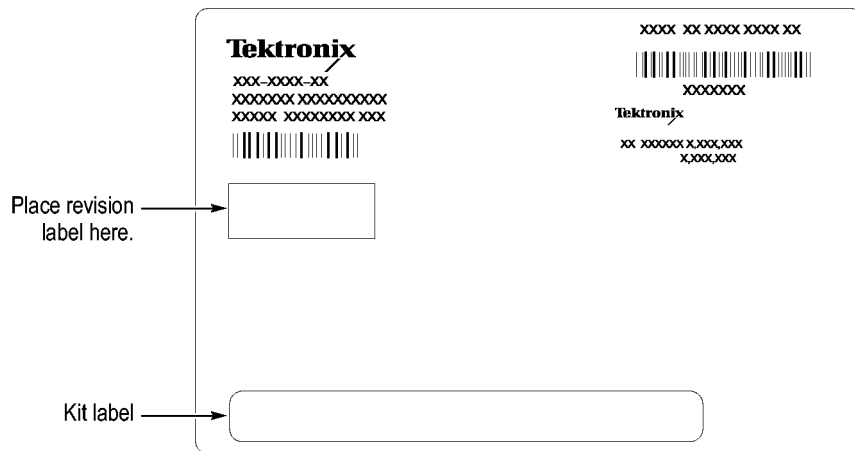

Figure 59: Revision and kit label locations
3. Locate the big label on the side of instrument modules and then attach the revision label and the TLA7KUP kit label as shown. (See Figure 59.)
- b. Locate the big label on the side of the TLA7016 Interface Module and attach the revision label and the TLA7KUP kit label as shown. (See Figure 59.)
- Locate the big label on the bottom of the portable mainframe and attach the revision label and the TLA7KUP kit label as shown. (See Figure 59.)